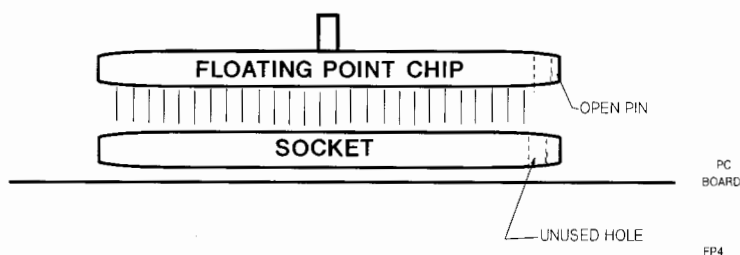

Figure 8-53. Floating Point Chip Alignment
5. See Figure 8-53. Position the floating point chip so the square open-pin location on the floating point chip is aligned with the unused hole on the socket. Observe the polarity of the chip and the socket.